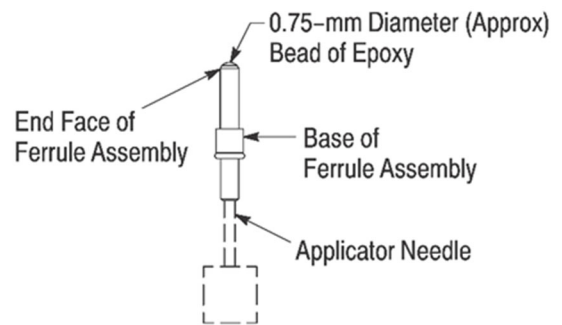

Figure 6
13. Hold the ferrule assembly vertically, and insert the needle tip into the base of the ferrule assembly until it is against the back (end closest to the base). Refer to Figure 6.